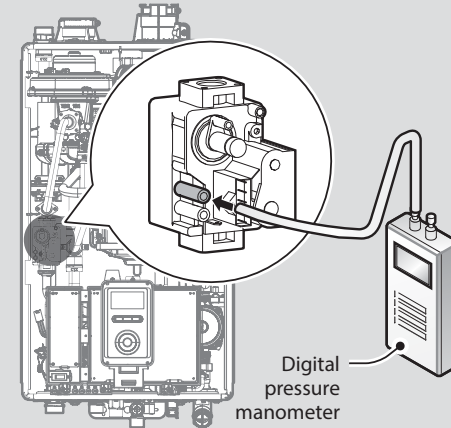

Figure 9. Connect Digital Pressure Monometer
a. Open the offset pressure port by loosening the screw two turns as shown in Figure 9.